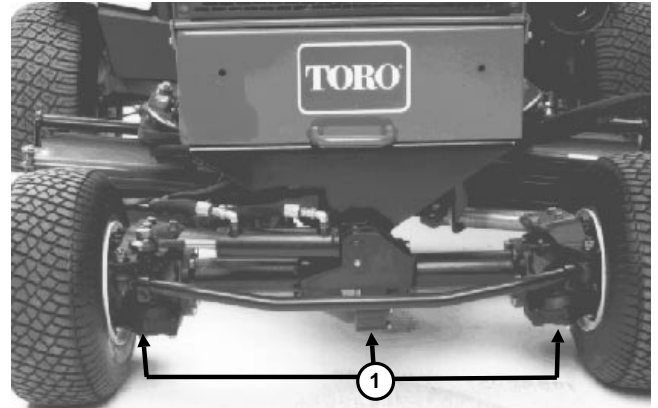

Figure 11
1. Remove drain plugs (Fig. 11) and let oil drain out into containers.